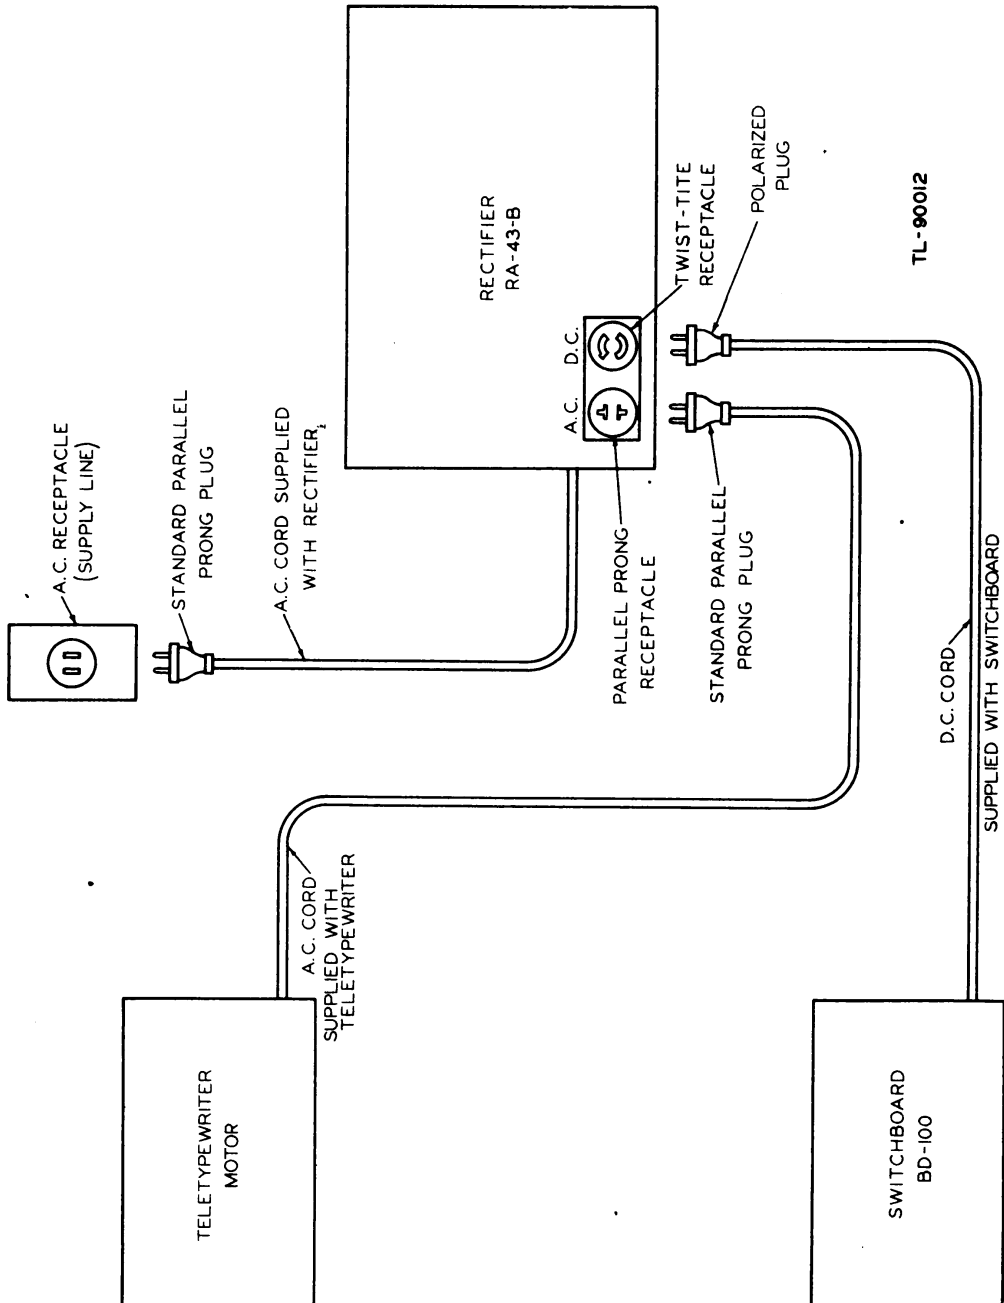

Figure 8. Rectifier RA-43-B, cording diagram.
a. Carry Rectifier RA-43-B by the handles on Case CS-82-B, place it in a location convenient to Switchboard BD-100, with which it is to be used, and to the a-c outlet to which it is to be connected (fig. 8). Open the four catches at the bottom of Case CS-82-B and remove the upper portion of the case.
a. Insert the plug on the a-c cord (attached to Rectifier RA-43-B) in supply-line receptacle (fig. 8).